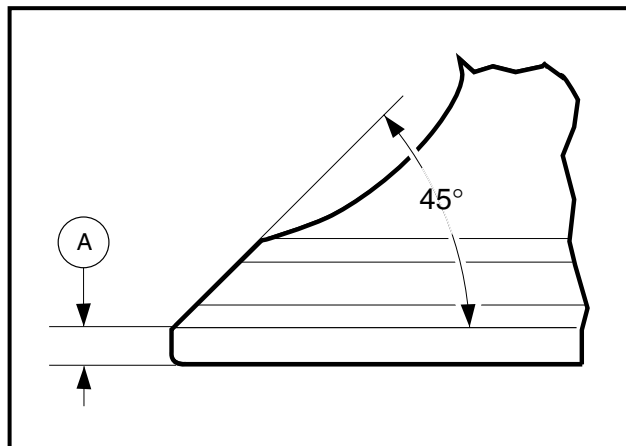

Figure 2-24 Valve Seating Surface Area
NOTE: The valve seating surface angle for the FE290 engine is 45° (**Figure 2-24, Page 2-14**).
1. Measure the thickness of the valve head (**Figure 2-24, Page 2-14**).
2. If the valve head thickness (A) is less than 0.024 inch (0.610 mm), replace the valve.